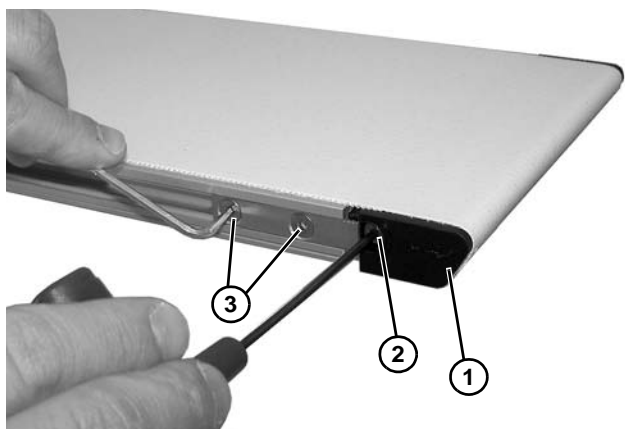

Figure 26
3. On tension end of the conveyor, adjust idler end (**Figure 26, item 1**) tracking cam (**Figure 26, item 2**) to adjust head plate assembly just enough to remove slack in the belt.
4. Tighten screws (**Figure 26, item 3**) to 12 in-lb (1.4 Nm).